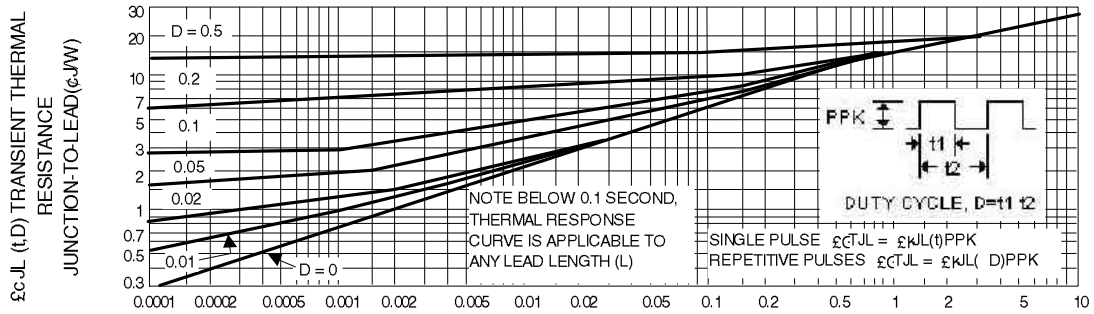
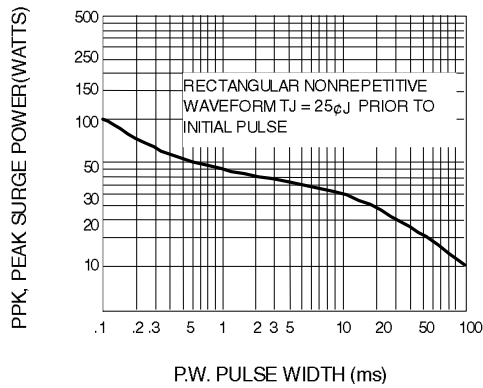
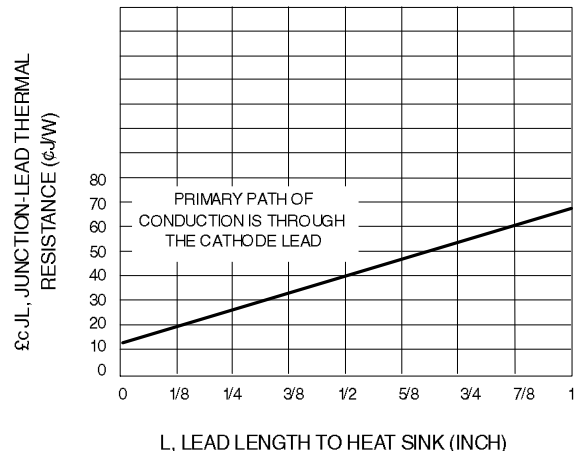

Fig. 2-TYPICAL THERMAL RESPONSE L,
Fig. 3-MAXIMUM SURGE POWER
Fig. 10-TYPICAL THERMAL RESISTANCE
4. SURGE CURRENT ( $I_r$ ) NON-REPETITIVE - The rating listed in the electrical characteristics table is maximum peak, non-repetitive, reverse surge current of 1/2 square wave or equivalent sine wave pulse of 1/120 second duration superimposed on the test current,  $I_{ZT}$ , per JEDEC standards, however, actual device capability is as described in Figure 3.
$\theta_{GT_{JL}}$  is the increase in junction temperature above the lead temperature and may be found from Figure 2 for a train of power pulses or from Figure 10 for dc power.
Data of Figure 2 should not be used to compute surge capability. Surge limitations are given in Figure 3. They are lower than would be expected by considering only junction temperature, as current crowding effects cause temperatures to be extremely high in small spots resulting in device degradation should the limits of Figure 3 be exceeded.